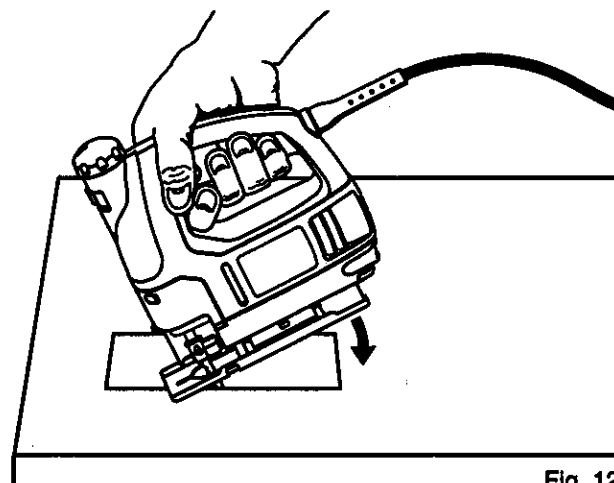

Fig. 12
See Figure 12.
- Using high speed, start your saw and slowly lower the blade into the workpiece until the blade cuts through the wood. See Figure 12.